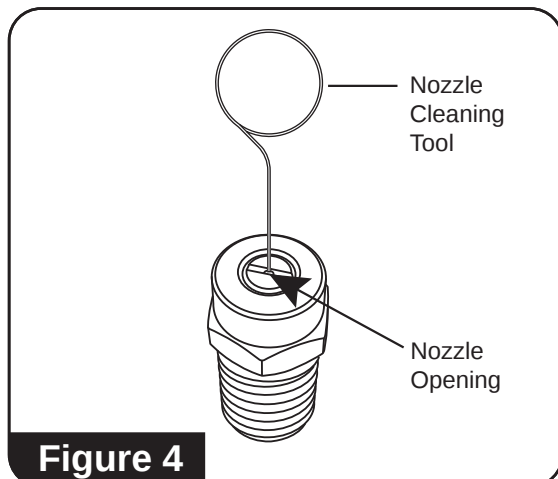

Figure 4
4. Using the nozzle cleaning tool, free any foreign material clogging or restricting nozzle openings (**See Figure 4**).